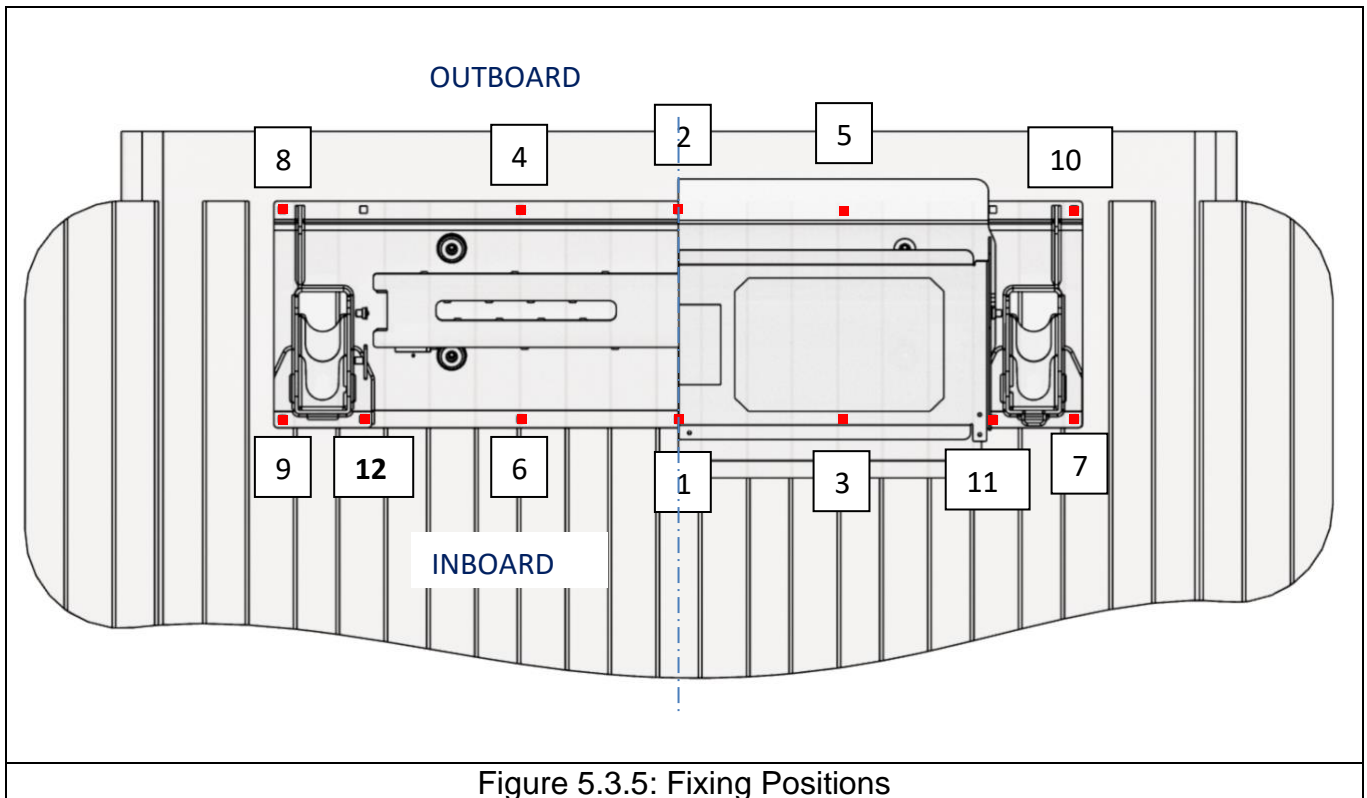

Figure 5.3.5: Fixing Positions
4. When sure that the position is OK, use the other 10x holes at the base of the lift as a guide to drill holes. Refer to Figure 5.3.5
It is important to ensure that the supporting surface to which the lift will be fastened is stable and that the holes do not affect the stability of the lift. The lift is provided with fastening plates and these have to be positioned, in correspondence to the holes, under the frame (Fig.5.3.5 shows inboard view). They need to be tightened using quantity 2 x Rectangular Under-Floor Plates under the inboard towers (7, 9, 11, 12 using 4 x M10 carriage bolts, nuts and washers) and 8 x Square Under-Floor Plates, M10 carriage bolts, nuts and washers (Fig.5.3.6 shows outboard view). **Tighten to correct torque specification for the bolt type used (See Section 10.1). Tightening to final torque should be done in the order shown.**